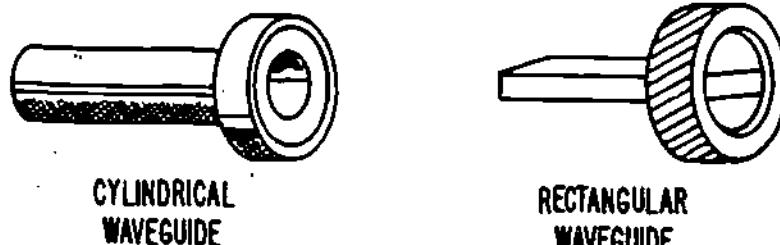

Figure 16
17. At microwave frequencies, a transmission line known as a waveguide is used to conduct RF signals. A waveguide is simply a cylindrical or rectangular metal pipe through which microwave signals easily travel. Figure 16 shows an example of two types of waveguides.